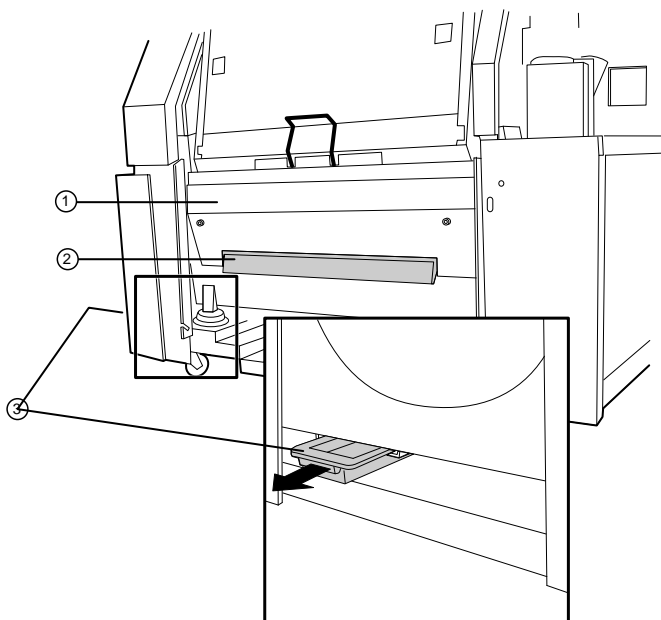

Figure 5.6 The Avantra 30 imagesetter with the front access panel off. ①—The light shield. ②—The front punch tray. ③—The rear punch tray.
5. Open the left bottom side door by swinging it out at a right angle to the imagesetter. The punch tray is located toward the back of the imagesetter. See Figure 5.6.